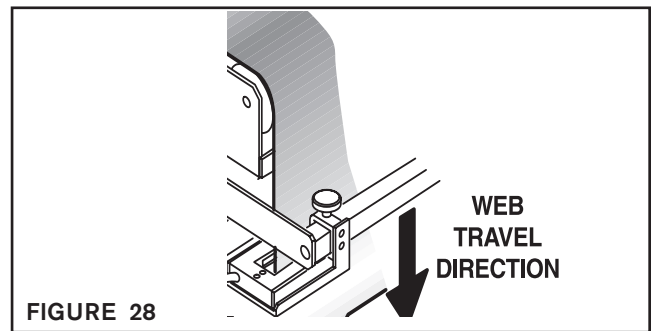

FIGURE 28
2. Thread the web through the web machine (See Figure 28).
4. After the web guide moves to the center position, switch the GC300 to Manual Mode and align the web to the desired location inside the Sensor; then, if necessary, apply tension to the web (See Figure 28).
6. Move the Sensor on its mounting bracket until the Red Bar Graph indicators are OFF and only the Green indicator is ON (See Figures 28 and 29). The Sensor is now aligned with the center of the Sensor's detection window.